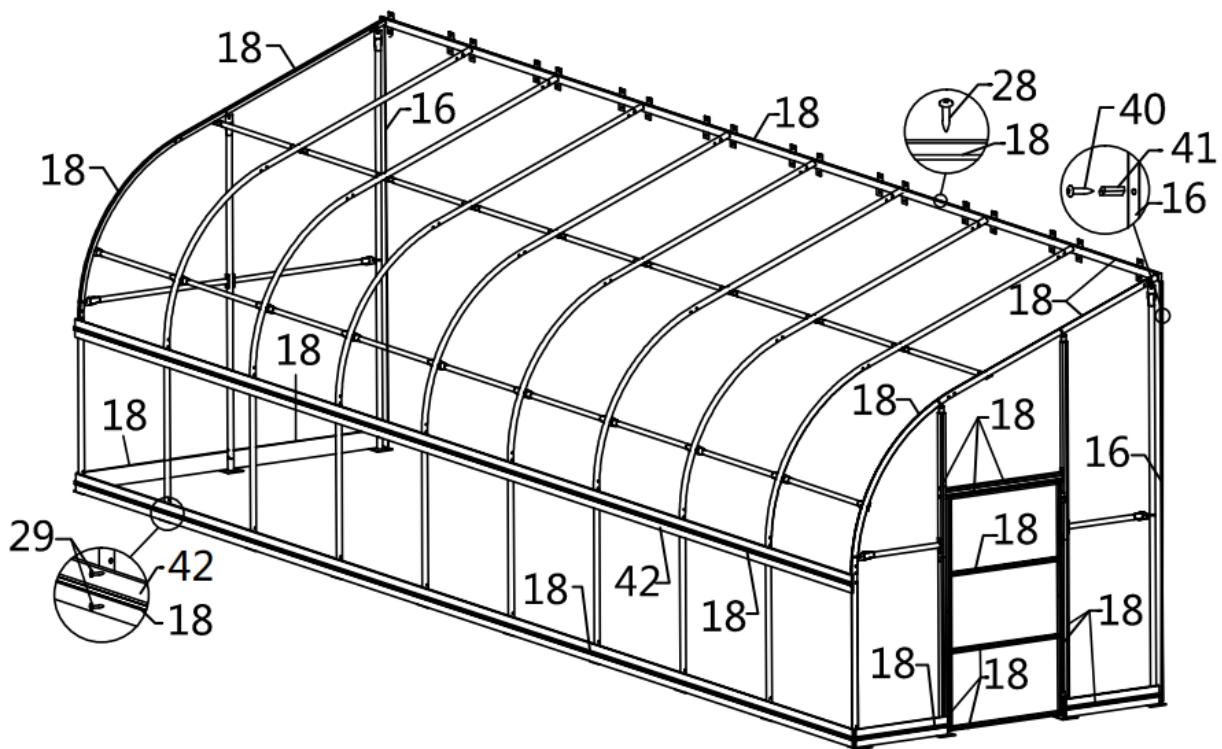

Figure 8
Step 7 : Install board, clamping groove and then cover tarpaulin (refer to figure 8).
- (4) Clamping groove with hole (#16)
- (35) Clamping groove (#18)
- (205) Self tapping screw (#28)
- (52) Self tapping screw (#29)